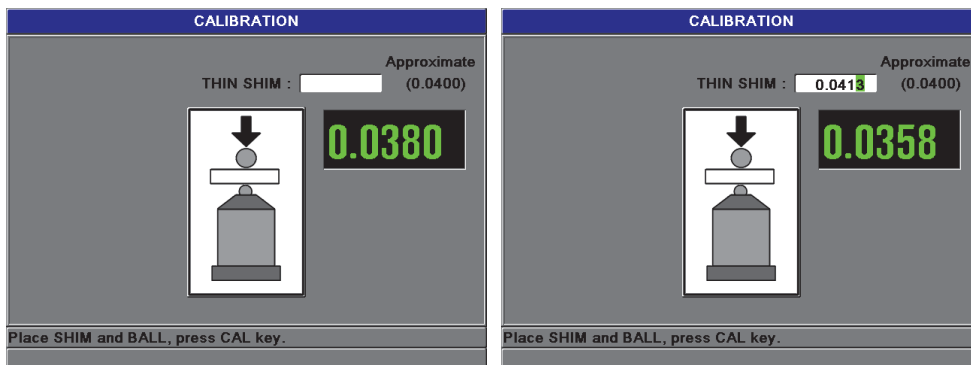

Figure 4-8 THIN SHIM calibration point
5. THIN SHIM point: The instrument will prompt the user to place a specific thin calibration shim and target onto the probe tip. The thickness of this thin calibration point will vary depending on which target ball, disk, or target wire is selected. The approximate thickness of the shim will be displayed in the lower measurement box. Press [CAL] to transfer the measurement to the text box, use the arrows keys to enter the known thickness of the calibration shim, and then press [CAL] (see Figure 4-8 on page 80).